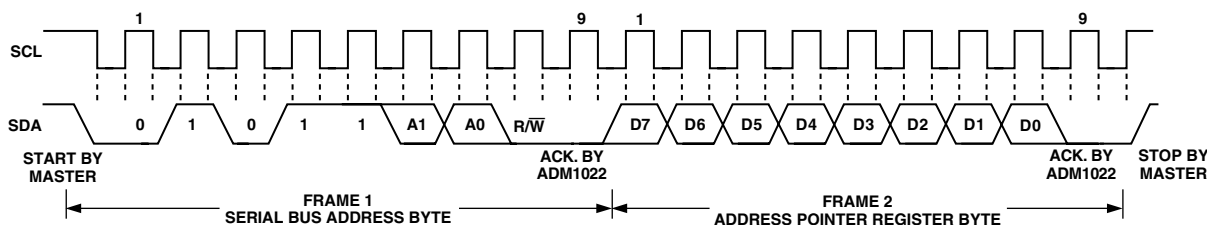

Figure 11b. Writing to the Address Pointer Register Only
1. If the ADM1022's Address Pointer Register value is unknown or not the desired value, it is first necessary to set it to the correct value before data can be read from the desired data register. This is done by performing a write to the ADM1022 as before, but only the data byte containing the register address is sent, as data is not to be written to the register. This is shown in Figure 11b.
2. If the Address Pointer Register is known to be already at the desired address, data can be read from the corresponding data register without first writing to the Address Pointer Register, so Figure 11b can be omitted.